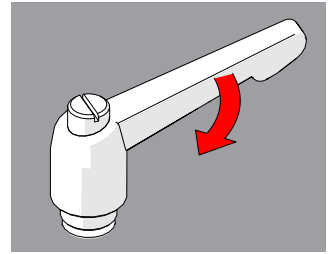

Fig. 241 - Tighten handle
3. Release the lever and utilize the new tightening position (*Fig. 241*).